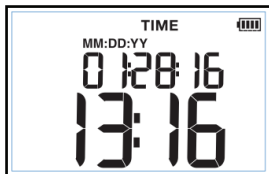

Figure 3. Time Setting
1. Push **SETUP** until **TIME** shows in the display. See Figure 3.